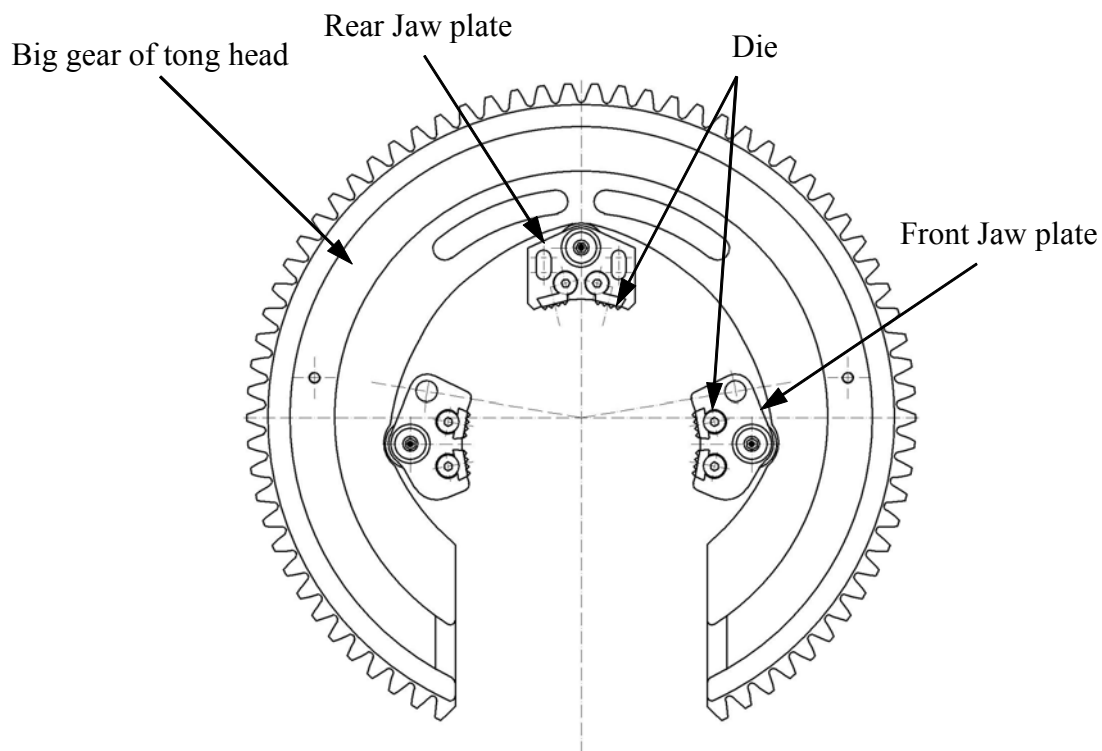

Fig 2 Master Tong head, Jaw Plate
4.2.1. Be aware of jaw set、dies specifications: jaw set of master tong have 9 specification, each specification of jaw plate of master tong and backup tong has three jaw plates, consisting of two front jaw sets and one rear jaw set(see fig 2 and 3).Both two front jaw sets are the same, and can be installed onto the left side or the right side. Before installing the jaw set, it needs to check whether the dies is wear, clean or not, the screws for fixing the dies must be tightened.